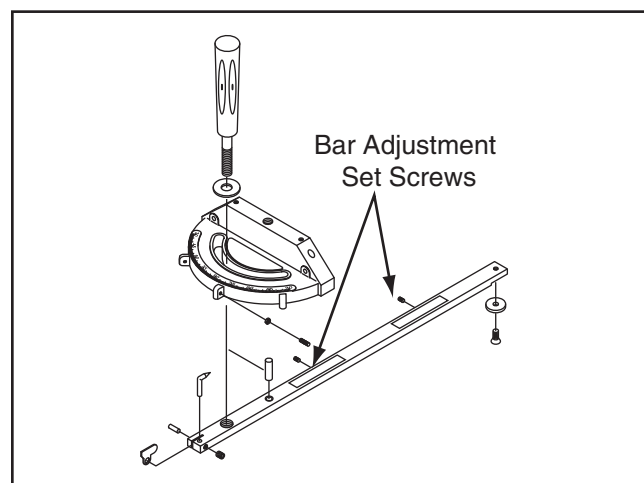

Figure 125. Screws for adjusting miter bar in miter slot.
1. Adjust the set screws shown in **Figure 125**.